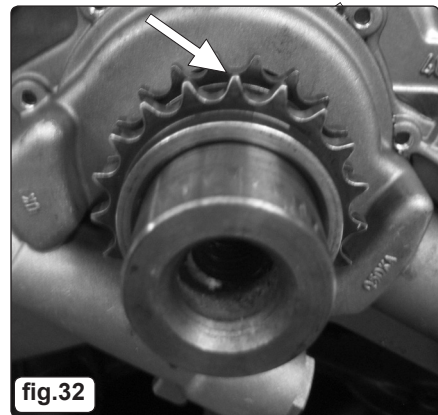

fig.32
- 4.7.9 **IMPORTANT:** The crankshaft gear is a two piece gear - make a note of the orientation of the gear teeth. The teeth of the left hand bank crankshaft gear (front) must be out of phase to the teeth of the right hand bank gear (rear) (fig.32).